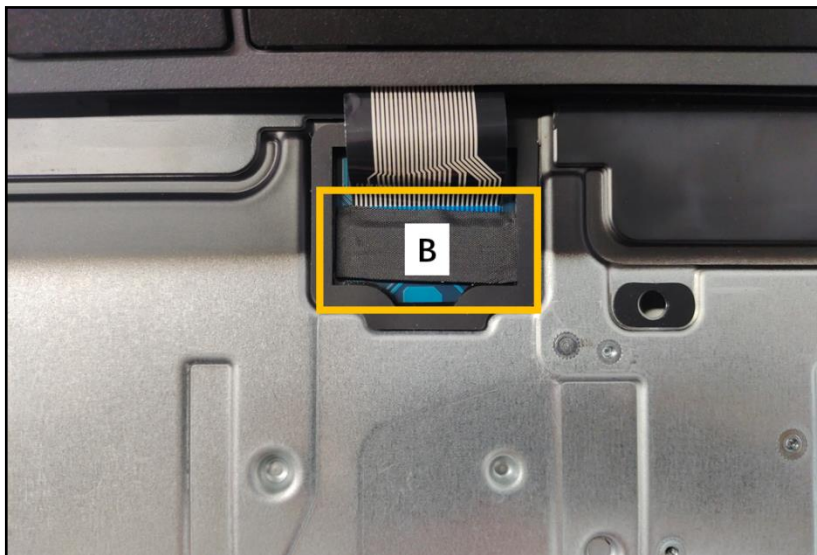

Figure 3-16. Keyboard Removal
- Detach the tape (B) securing the keyboard FPC (Figure 3-16).